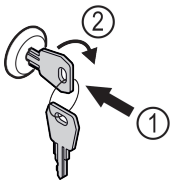

Fig. 133 Example illustration
- ▶ Insert key Fig. 133 (1).
- ▶ Turn key clockwise by 90° Fig. 133 (2).